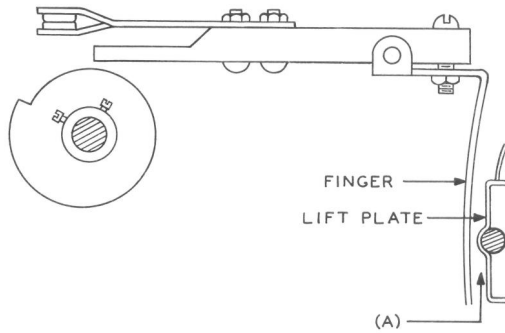

Fig. 6 - Separation Between Finger and Lift Plate
2.07 Separation Between Finger and Lift Plate: Fig. 6(A) — With the armature